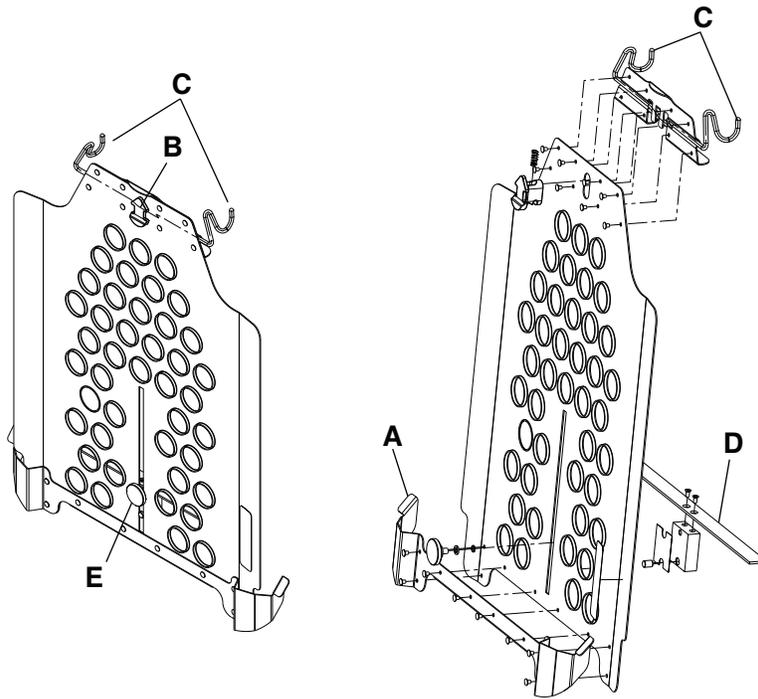

Figure 33 – X-ray cassette holder
3. Insert the lower retainer guides (A) under the Fowler backrest weldment bar (Figure 33).